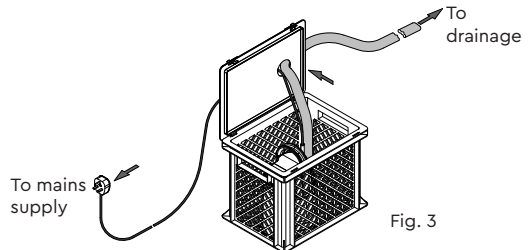

Fig. 3
- 2. Uncoil and feed both the lay flat hose and the supply cable through the hole in the lid (Fig. 3).